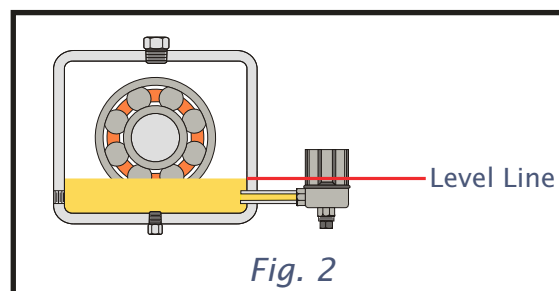

Fig. 2
4. Verify that assembly is level and parallel with desired oil level (Fig. 2). Make necessary adjustments if required.